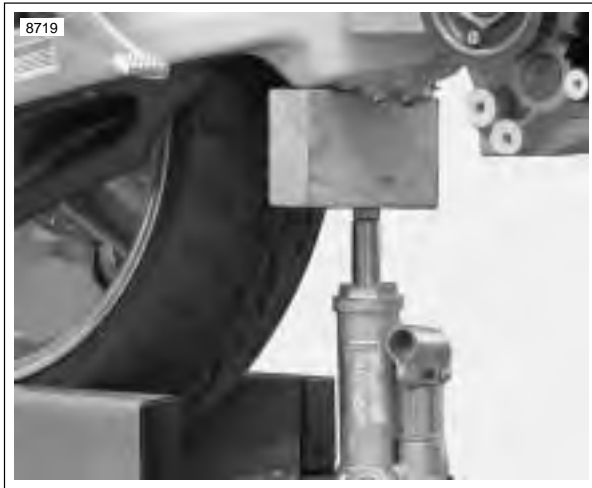

Figure 3-37. Supporting the Swingarm (Typical)
1. See Figure 3-37. Install bottle jack and wooden block under swingarm/oil tank.